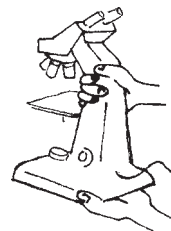

Fig. 9.3
- Always carry the microscope with one hand supporting the base and the other hand around the arm (Fig. 9.3).